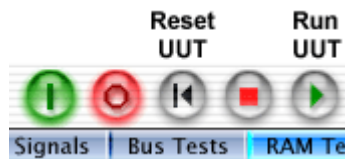

Fig. 2 – PCT Toolbar buttons: Run UUT boots the board, after Power ON.
3. Power up the board and boot it to Windows. This can be done from the PCT Toolbar (fig. 2).